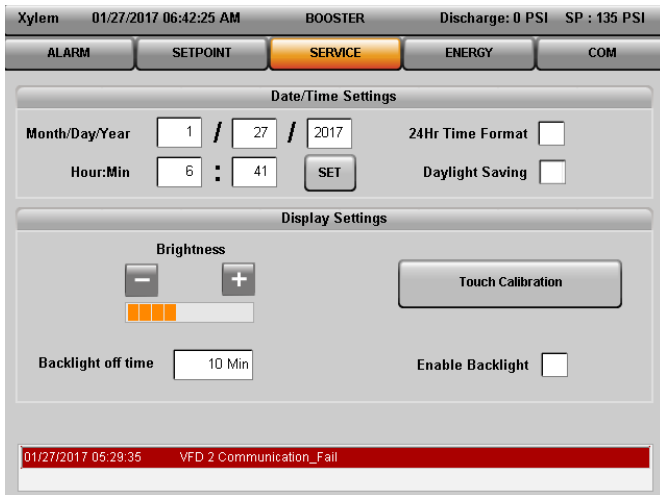

Figure 5.5.28 – Date/Time Setup page
- Month/Day/Year** – Enter the current Month, Day and Year in their respective input space as shown in Figure 5.5.28.
- Hour:Min** – Enter the hours using the 24 hour format and Minutes from 0 to 60 in their respective input space as shown in Figure 5.5.28.